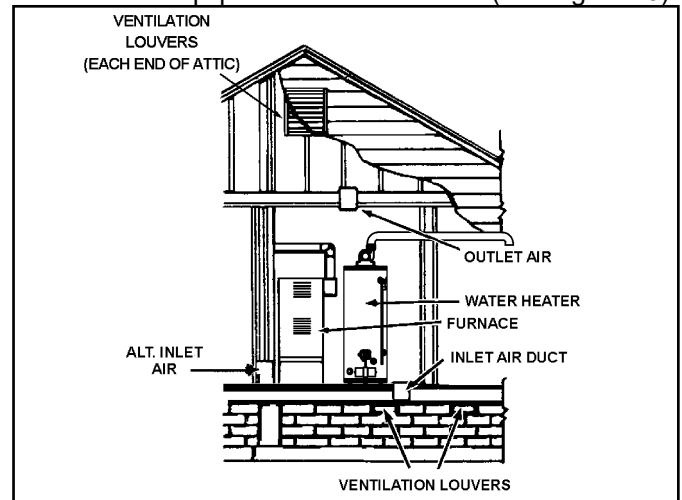
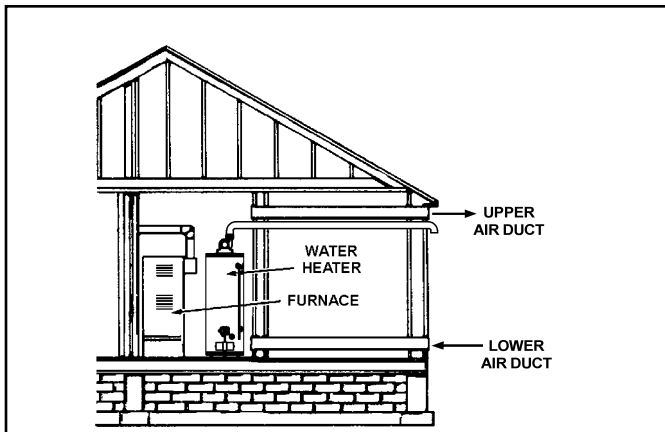

Figure 18.
Figure 20.
- B. ALL AIR FROM OUTDOORS: (See Figure 18 through Figure 20)
1. When directly communicating with the outdoors, each opening shall have a minimum free area of 1 square inch per 4,000 Btu/hr of total input rating of all equipment in the enclosure (see Figure 18).
3. When communicating with the outdoors through horizontal ducts, each opening shall have a minimum free area of 1 square inch per 2,000 Btu/hr of total input rating of all equipment in the enclosure (see Figure 20).
4. When ducts are used, they shall be of the same cross-sectional area as the free area of the openings to which they connect. The minimum short side dimension of rectangular air ducts shall not be less than 3 in. (see Figure 20).